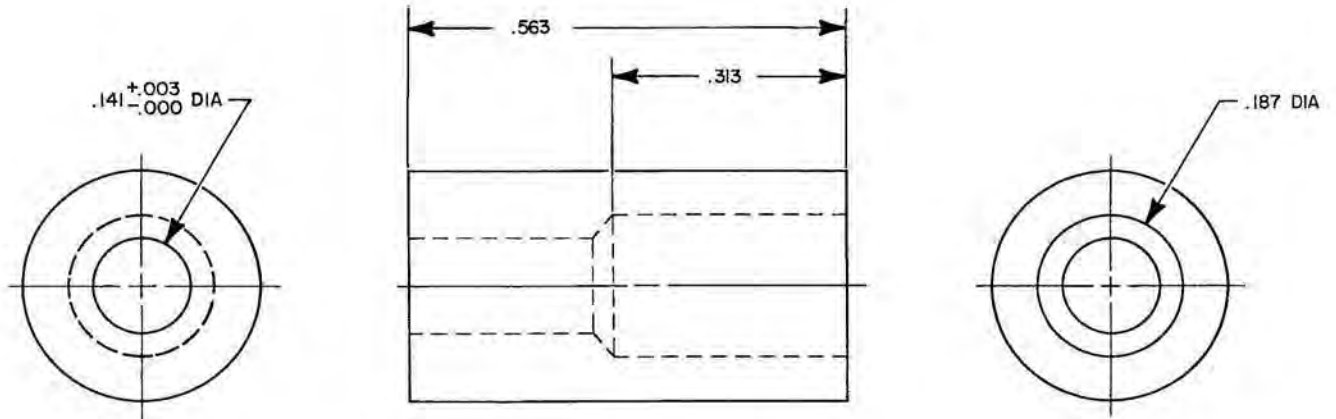

Figure B-6 Probe End Preparation
3. Fabricate a probe end (7) from 5/16" diameter brass rod as shown in Figure B-6.